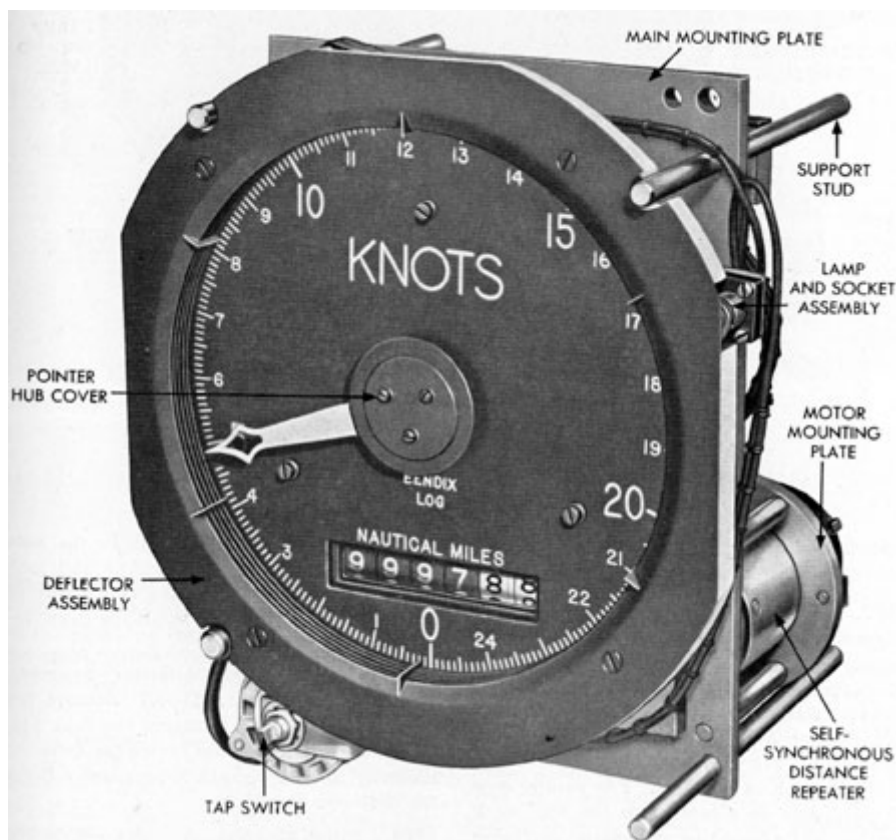

Figure 13-17. Speed and distance indicator removed from case.
**13F1. Removing the pointer and dial.** (Figures 13-17, 13-18, and 13-19.) Remove the case cover retaining screws and cover. Remove the three screws and lock washers that secure the unit to the case, and lift the unit from the case. Remove the three screws and
**13F3. Removing the deflector assembly.** (See Figures 13-17 and 13-19.) Remove the cover from the case. Remove the four flathead machine screws that secure the deflector assembly to the ringlight sectors, and remove the deflector assembly.
**13F4. Installing the deflector assembly.** (See Figures 13-17 and 13-19.) Carefully